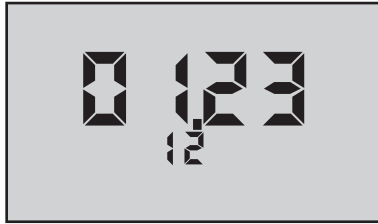

Figure 12
Example shown in Figure 12 is in US format, i.e., mo/dy/yr.
2. Press $\frac{\text{MR}}{\text{MCLR}}$ repeatedly until the date is displayed (scrolling through stored readings, “PC OFF”, “CLF ALL” and time to the date, e.g. “01.23.12” (Figure 12), January 23, 2012).